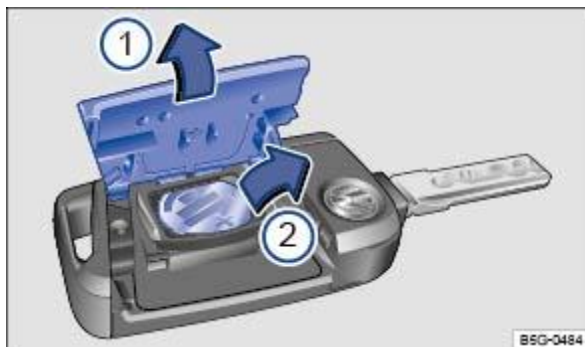

Fig. 51 Vehicle key: replacing the button cell.
Key to ⇒ Fig. 51 :
Lever off the cover ⇒ Fig. 51 ① ⇒ .
Lever the button cell out of the battery compartment ⇒ Fig. 51 ② .
Press the cover onto the housing ⇒ Fig. 51 ① .